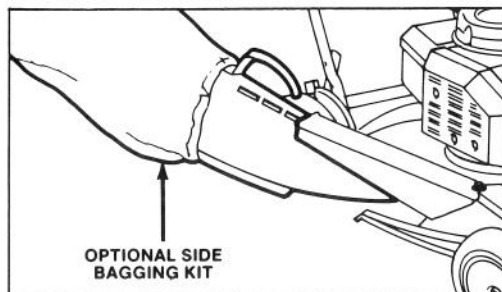

Figure 5
**SIDE BAG** — Optional side bag kit (Fig. 5) lets you bag lush grass in spring to help keep your lawn free of thatch forming clippings. In the fall, bag leaves while you mow to eliminate the hand-blistering raking job.